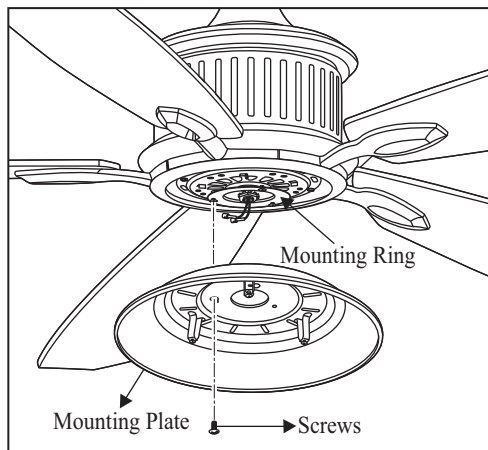

Figure 17
2. Place the key holes on the mounting plate over the 2 screws previously loosened from the mounting ring, turn mounting plate until it locks in place at the narrow section of the key holes. Secure by tightening the 2 screws previously loosened and the one previously removed. (Fig. 17)